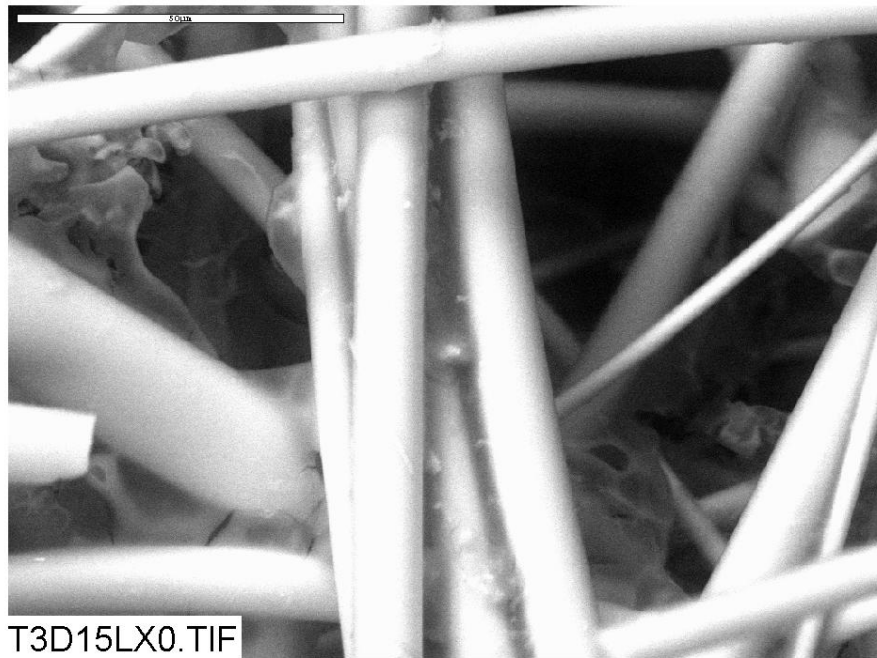
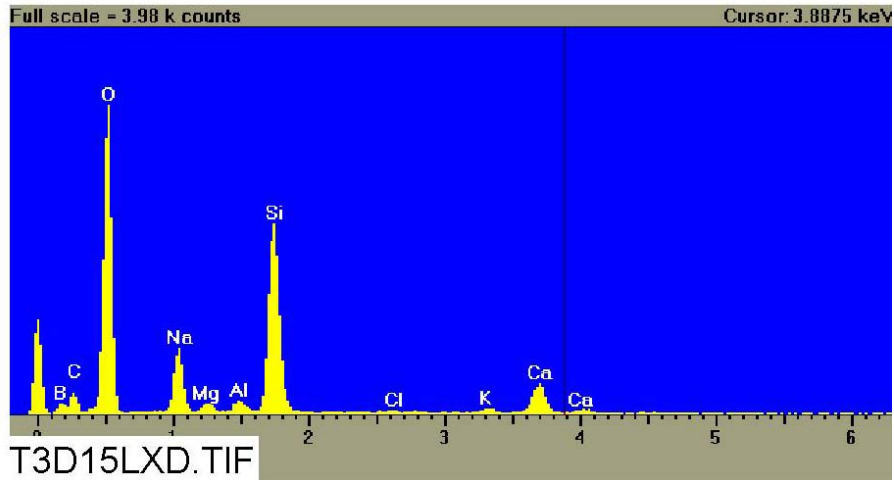

Figure B2-6. Environmental SEM image magnified 1000 times for a Test #3, Day-15 low-flow exterior fiberglass sample. (T3D15LX0)
Figure B2-7. EDS counting spectrum for the deposits between the fibers on ESEM image shown in Figure B2-6. (T3D15LXD)
- Figure B2-6. Environmental SEM image magnified 1000 times for a Test #3, Day-15 low-flow exterior fiberglass sample. (T3D15LX0) B2-7
- Figure B2-7. EDS counting spectrum for the deposits between the fibers on ESEM image shown in Figure B2-6. (T3D15LXD) B2-8